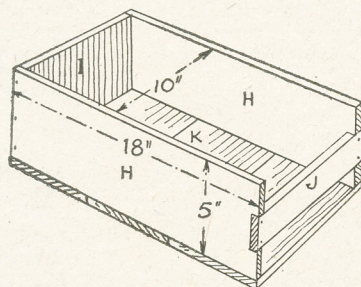

Fig. 2—The lower box frame
The box to take the dust underneath the sifter is made as the diagram Fig. 2 shows. There are two sides (H) 18ins. by 5ins., one end (I) about 10ins. by 5ins.,
one bar (J) cut from stuff about 2ins. wide to the full width of the box. This bar (J) should be let into the sides (H) to come flush with the edges of them, as illustrated in Fig. 2.
The floor of the box may be formed from three or more pieces of stuff cut the full width of the framing and nailed to the underside, as seen in Fig. 2.
If using such backs, it is as well to make a brooch mounting board of the type shown in Fig. 2. This is merely a small block of wood with a slot large enough to take the pin, leaving the flat part of the brooch in contact with the block. In this way the cementing of brooch to base may be done under pressure and a reliable job made.